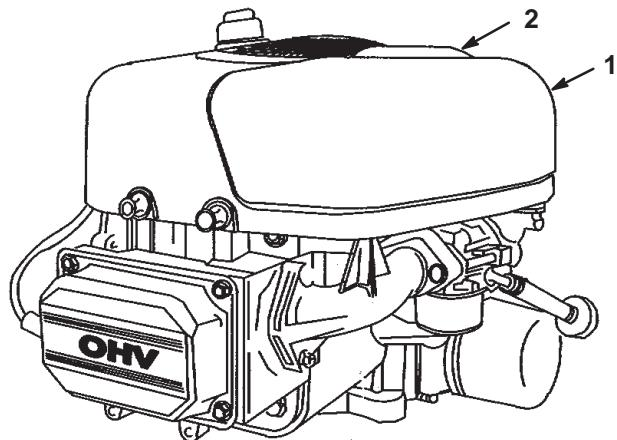

Figure 23
3. Clean around the air cleaner to prevent dirt from getting into the engine and causing damage. Pull up on the air cleaner cover handle and rotate it toward the engine (Fig. 23). Remove the air cleaner cover.